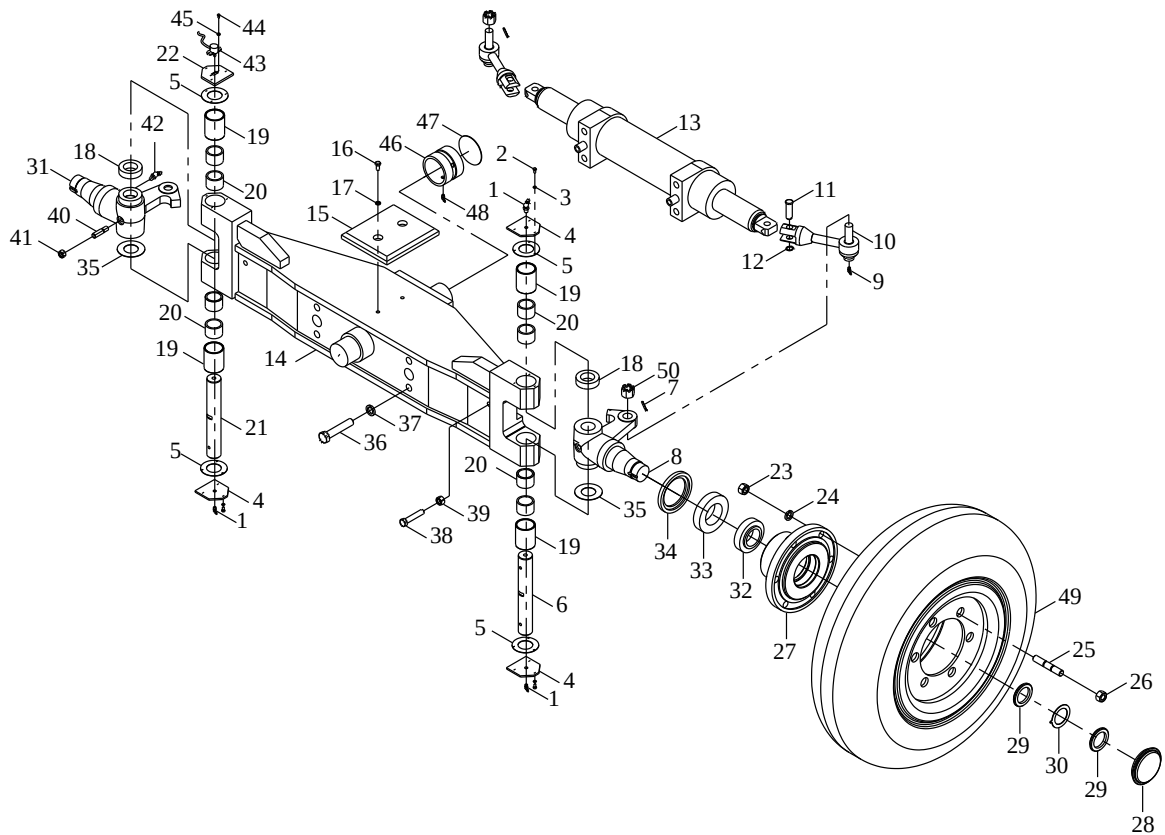

Fig.3-3 Steering axle
The steering axle assembly is composed of the steering axle, steering knuckle, steering hub, steering wheels and steering cylinders. See figure 3-3.
- 2) See Figure 3-3. Loosen nut 23, washer 24, bolt 25 and nut 26, and remove the tire;
- 3) See Figure 3-3 and remove end cap 28.
- 4) See Figure 3-3, remove the steering knuckle lock nut 29, stop washer 30.
- 5) See Figure 3-3, pull out hub assembly 27.
- 6) See Figure 3-3. Remove bearing 32, bearing 33, and oil seal 34.
- 1) See figure 3-3, pull the dustproof sleeve, remove retainer ring 12, pin 11, remove pin 7, loosen nut 50, and remove the rod device 10 ;
- 2) See Figure 3-3. Loosen nut 41 and set screw 40 and remove grease nipple 42 from the steering knuckle.
- 3) See Figures 3-3. Loosen the cover bolt 2 and remove the cover 4 together with the oil cup 1, the sensor cover 22 and the angle sensor assembly 43 and the gasket 5.
- 4) See Figure 3-3, remove the left steering main pin 6 and the right steering main pin 21 (the left and right main pins are different)